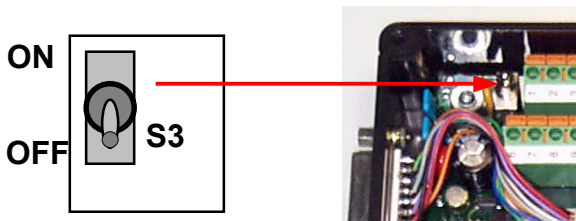

Figure 6 - Power switch ON/OFF positions
- 2) Verify that the DP1200 power switch is off (see Figure 6).
- 5) Switch ON the DP1200 power switch (see Figure 6).
The power switch (see Figure 6) switches ON or OFF the power supply for both the decoder and the connected reader.